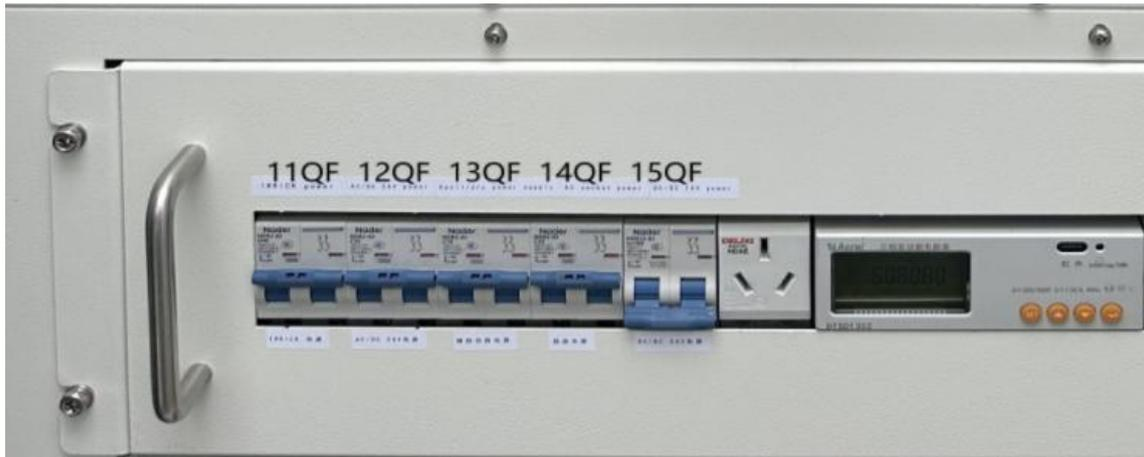

Fig 9-8 Miniature Circuit Breaker Position
Disconnect the circuit breaker 11QF~15Q (Fig9-8) of the electrical cabinet control power box in turn, and then complete the power-off operation
- The emergency power-off operation can be terminated at this step; If necessary, continue to disconnect all circuit breakers in the control power box (Fig9-8) in the electrical cabinet